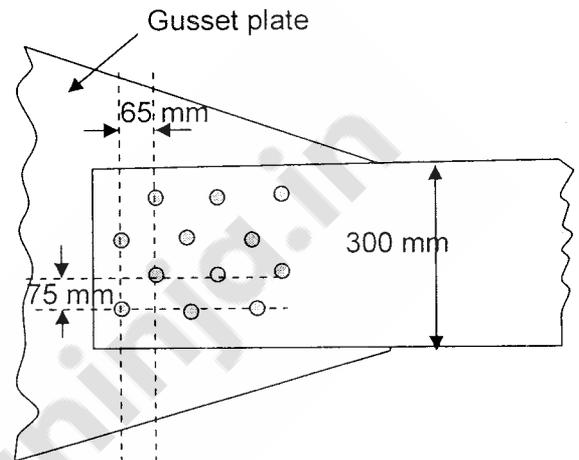

Fig. 5a) Chain riveting
6. A 300 I.S.F 8 mm is used as a tension member in a lattice girder. It is connected to a 12 mm gusset plate by 18 mm ϕ hand-driven rivets. The yield stress of steel is 250 N/mm^2 . Calculate the maximum force that the member can carry, if (40)
- Chain riveting is done as shown in Fig. 5a